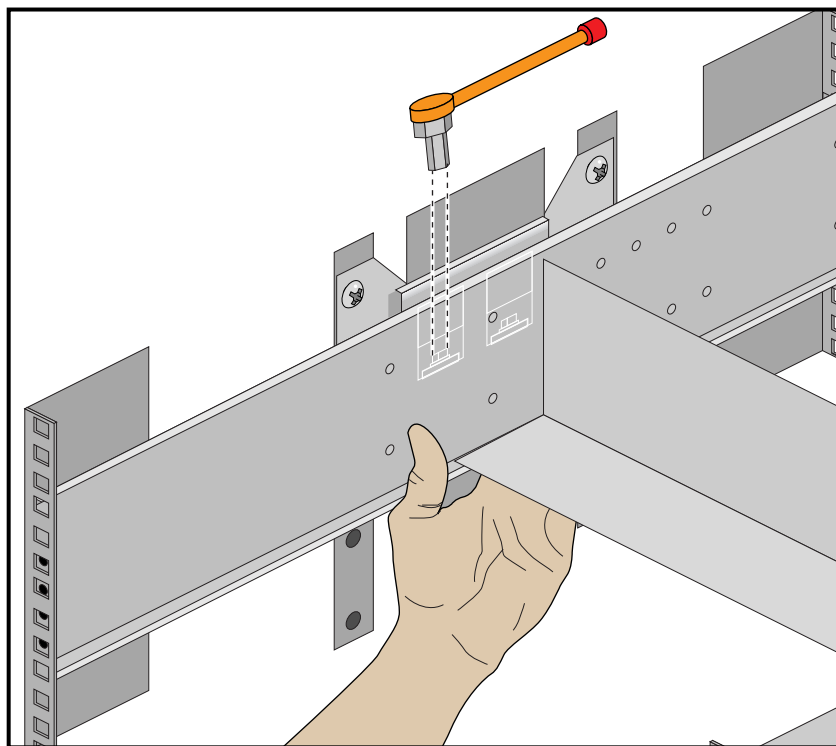

Figure 7-2 Alignment with the D-Rack Stiffener Vertical Bolt
3. Attach the inner bracket to the outer bracket using the vertical bolt and socket wrench (Figure 7-2 on page 80). Do **not** tighten these bolts all the way. They will be used later for altering rail aligning using the alignment tool.